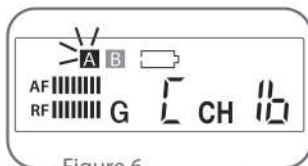

Figure 6
- (1) Antenna Status: the receiver will automatically select an antenna with stronger signal reception and highlight that antenna **16** (Figure 6)